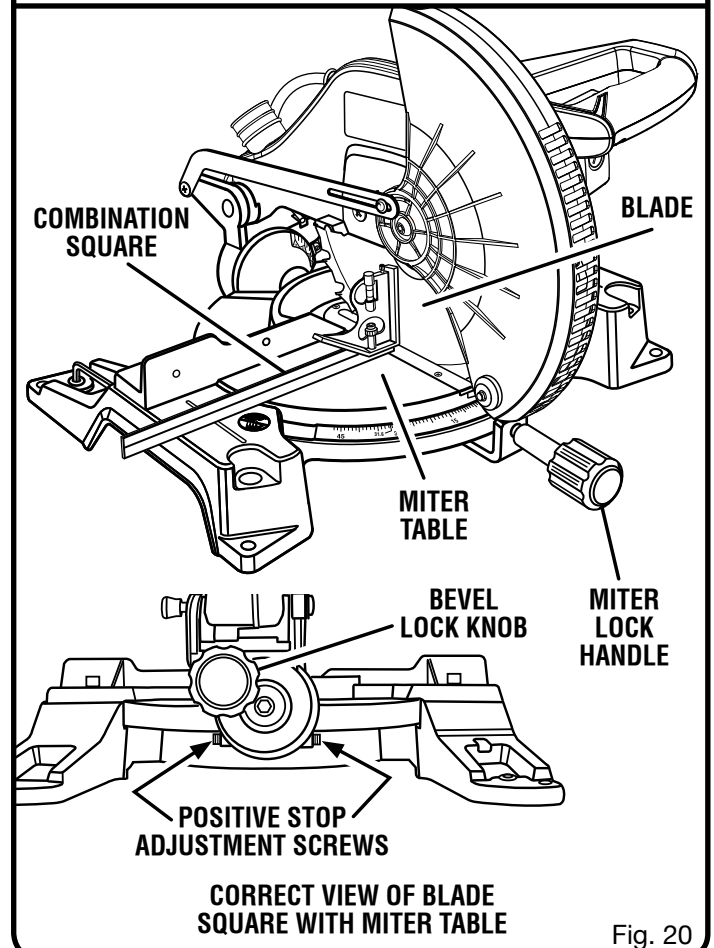

Fig. 20
- The edge of the square and the saw blade should be parallel as shown in figure 20.